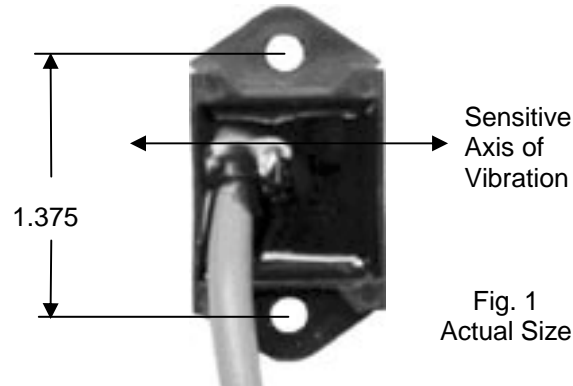
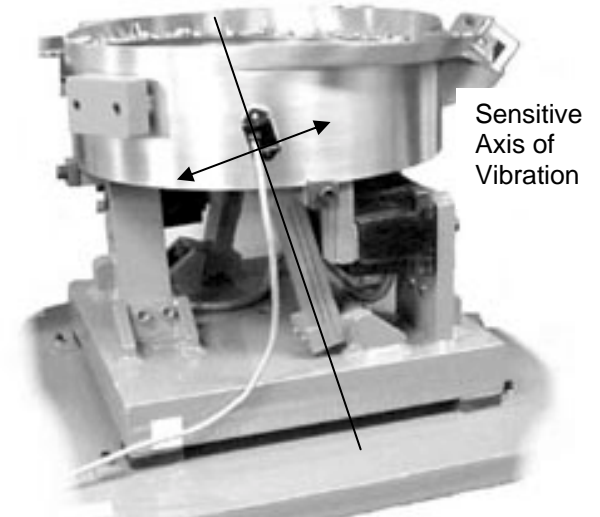

Fig. 1
Fig. 2 The arrow shows the direction of vibration which is at a right angle to the spring pack.
**A. ORIENT THE SENSOR** so that its sensitive axis is in the same direction as the vibration of the feeder. The double-ended arrow in figure 1 shows the sensor's sensitive axis. Align the sensitive axis of the sensor in the same direction as the vibration (see figure 2). The sensor must be oriented correctly for proper operation.
- 6) Remove the vibration sensor from its protective packaging. Remove the liner from the adhesive backing. Avoid touching the tape. Align the sensor as shown in figures 1 and 2. Apply the vibration sensor to the prepared area of the feeder. Press the sensor very firmly onto the feeder surface for at least 10 seconds.
Use a cable tie and an adhesive-backed mount to attach the sensor cable to the side of the drive base. See Figure 2. Clean the mounting area before applying the adhesive-backed mount.